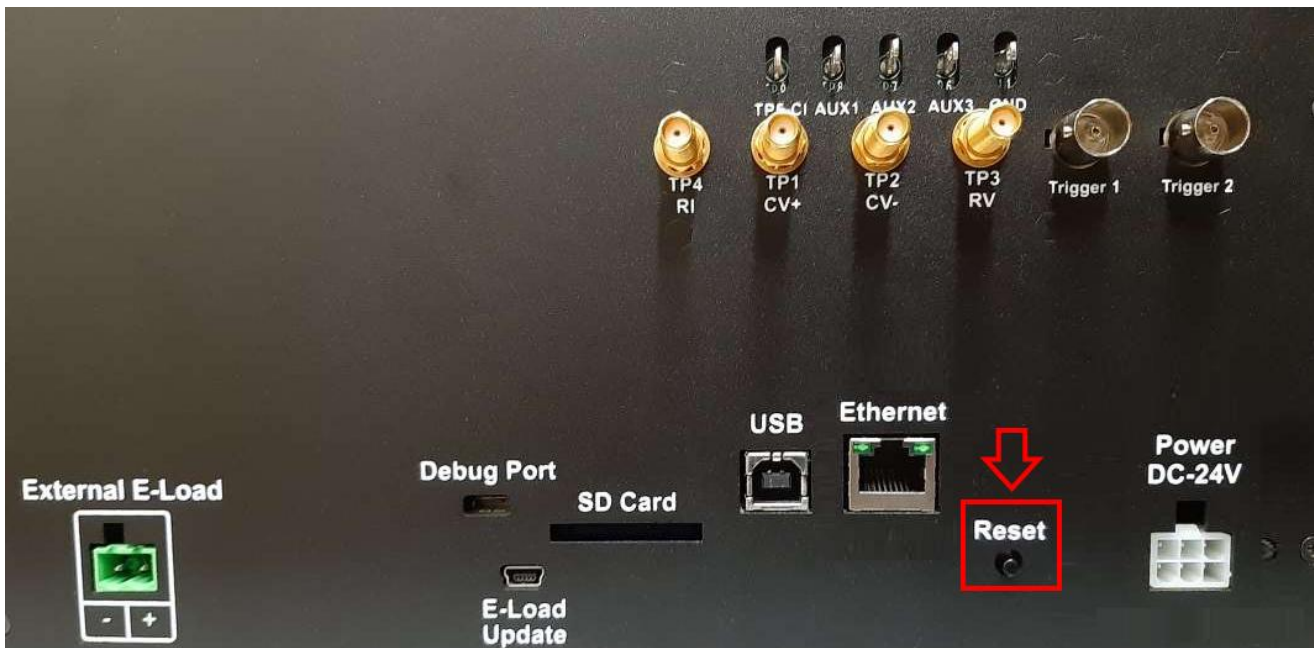

FIGURE 7.10: GRL-C3 RESET BUTTON
1. Once the user presses on the **Reset button** at the back of the GRL-C3 tester (as indicated in Figure 7.10 below), the control PC should detect a new removable USB drive.